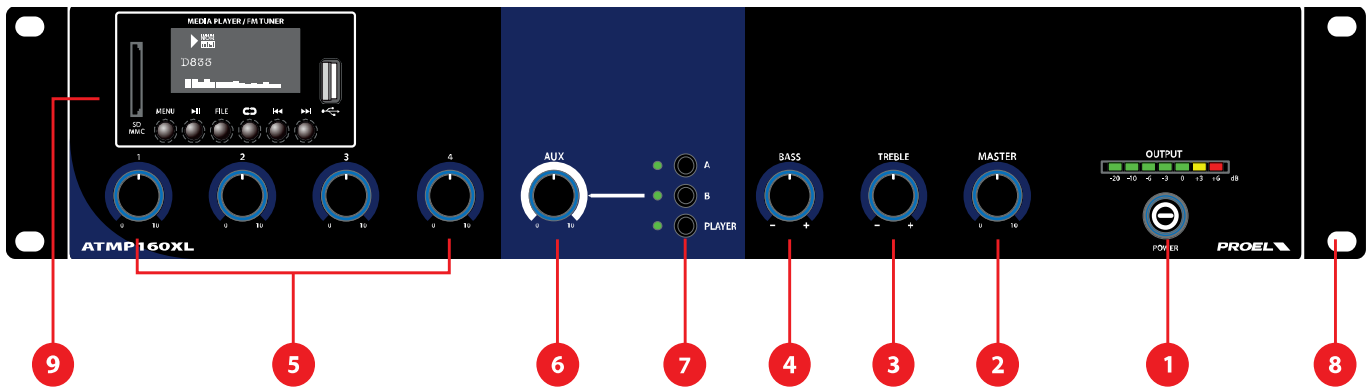
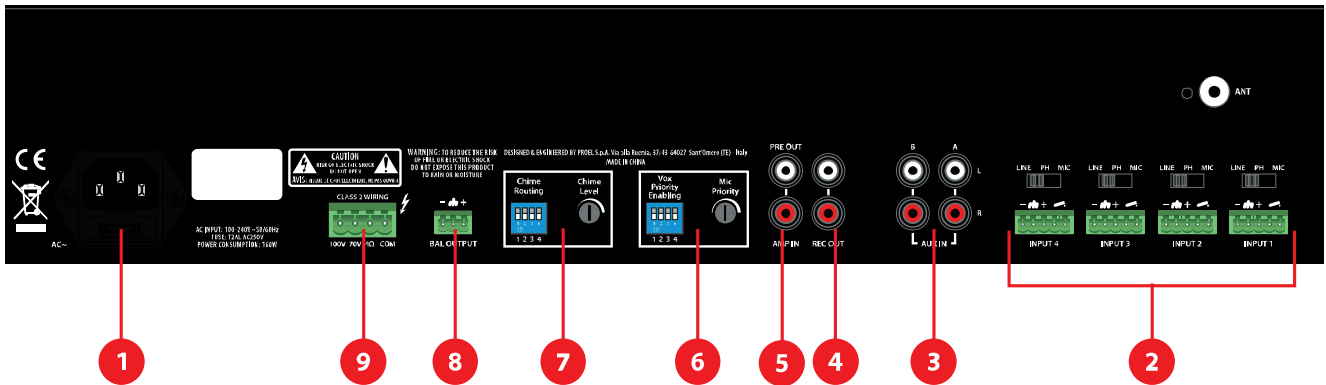

Fig. 1
Fig. 2
Pressing the A, B and PLAYER buttons respectively enables the AUX A, B input (**fig.2, ref.4**) and the Multimedia Module (**fig.1, ref.9**). The enabled input is shown by the lit led.
With a long press of the "I<<", ">>I" keys it is possible to set the digital volume of the internal media player. We suggest to leave this volume always at maximum and to adjust the level of the media player using the AUX level potentiometer (**fig.1, ref.6**).
Each input has a “Dry Contact” that has the functions “Chime Activation” and “Force Input Muting”. These functions can also be activated simultaneously and are subjected to the (ON – OFF) position of the dip switch (**fig.2, ref.6 e 7**):
The amplifier will play an alert sound from the loudspeakers line when the contact is closed (**fig.3 ref.C**) with the relative dip-switch PIN ON (**fig.2 rif.7**).
The control forces the muting of AUX inputs and other inputs (**fig.2, ref.2**) with the relative VOX PIN (**fig.2, ref.6**) OFF when the contact is closed (**fig.3 ref.C**). Inputs will remain mute while the dry contact remains closed. This function is particularly useful with very weak audio signals, which may cause constant connections/disconnections of the VOX function, resulting in alternating the signal output.
*Each INPUT 1 ÷ INPUT 4 has a VOX function that can be switched on and off using the PIN (**fig.2, ref.6**): while the VOX circuit of one of the channels with VOX ON (enabled) detects the presence of an audio signal on the relative input (**fig.2, ref.2**), the AUX channels (**fig.2, ref.3**) and the channels with VOX OFF (disabled) will be muted, while all the channels with VOX ON will be mixed in the output.*
The device has 3 AUX inputs that can be selected from the front panel (**fig.1 ref.7**):
Each INPUT 1 ÷ INPUT 4 has a VOX function that can be switched on and off using the relative PIN (**Vox Priority Enabling**): when the VOX circuit of one of the channels with VOX ON (enabled) detects the presence of an audio signal on the relative input (**fig.2, ref.2**), the AUX channels (**fig.2, ref.3**) and the channels with VOX OFF (disabled) will be muted, while all the channels with VOX ON will be mixed in the output.
Connect the constant impedance line ( $4\Omega$ ) between the “COM” and “ $4\Omega$ ” terminals (**Fig. 2, Ref. 4**).
Connect the constant voltage line (100V or 70V) between the “COM” and “100V” (or “70V”) terminals (**Fig. 2, Ref. 4**).
Connect the constant voltage line (100V or 70V) between the two "COM" and "100V" (or "70V") terminals (**Fig. 2, Ref. 4**).